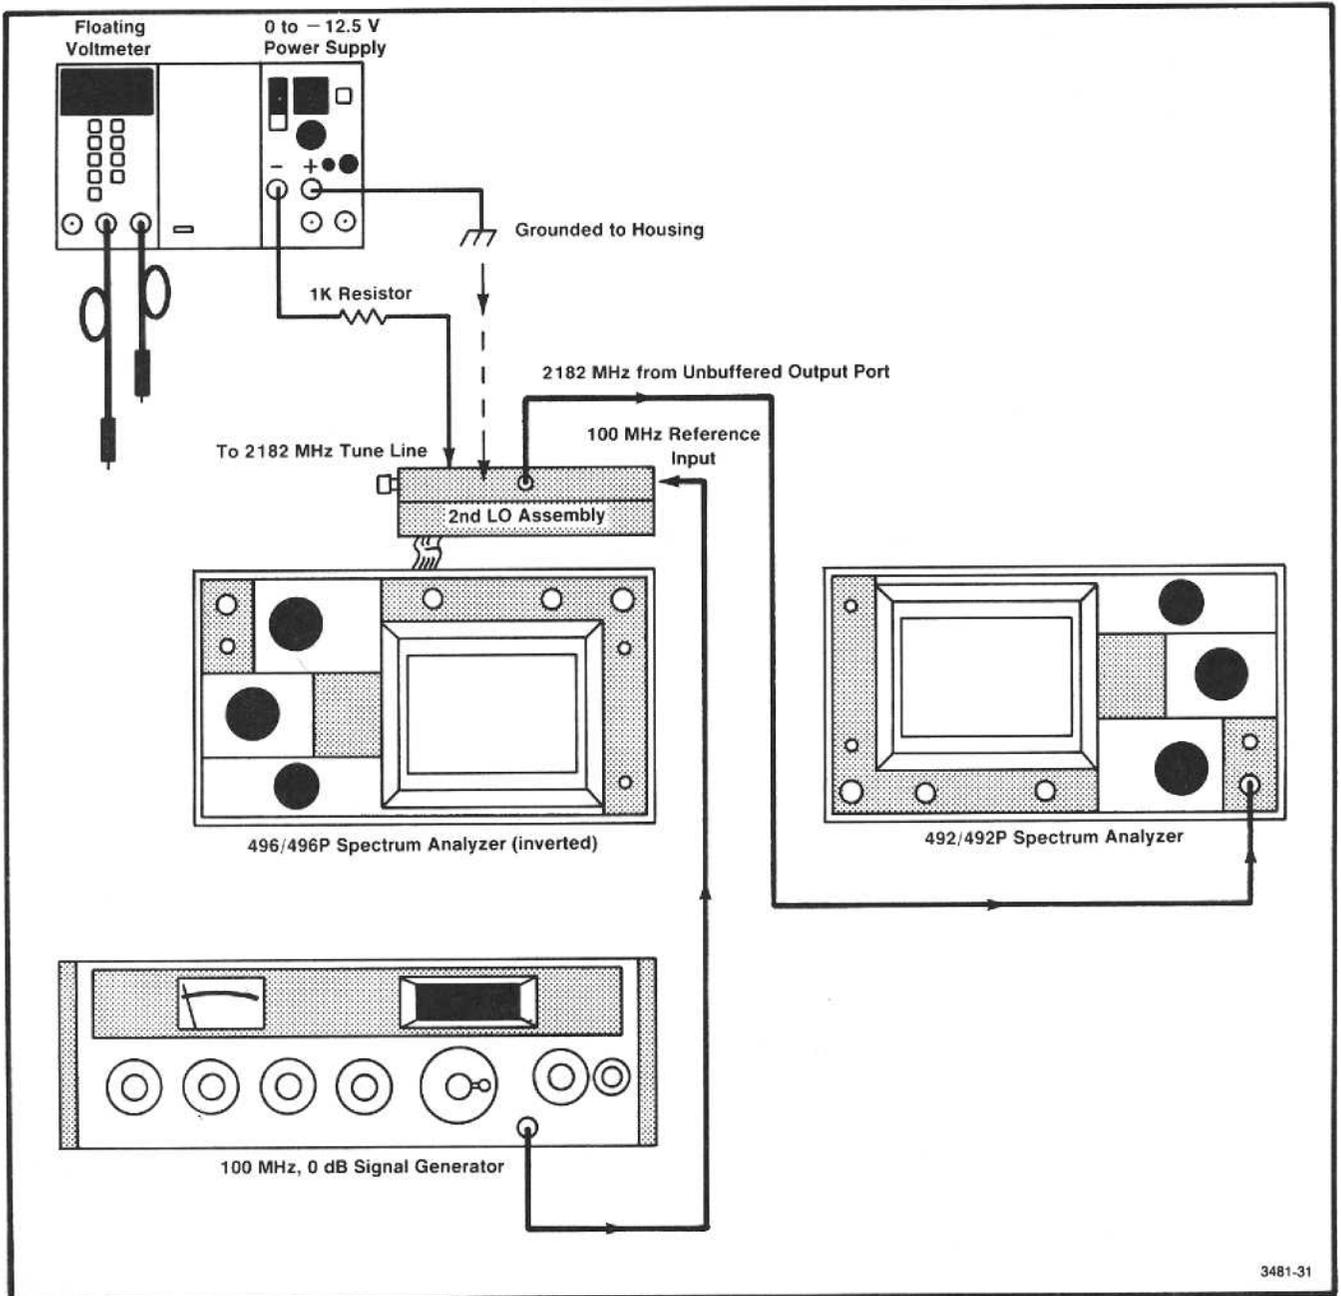

Fig. 4-13. Test equipment setup for calibrating oscillator section of the 2nd LO.
a. Test equipment set-up is shown in Fig. 4-13. Turn the 496/496P upside down and remove the semi-rigid connectors from the 2nd LO assembly. Remove the flexible cable from the 100 MHz input. Unscrew the 14 screws and remove the sheet metal cover.
e. Refer to Fig. 4-13. Connect the second analyzer to the 2182 MHz unbuffered output port of the 2nd LO assembly. Set this analyzer for a center frequency of 2182 MHz, a Span/Div of 20 MHz, and a Reference Level of -10 dBm. Make sure that no cables are draped over the oscillator compartment; these may affect tuning.